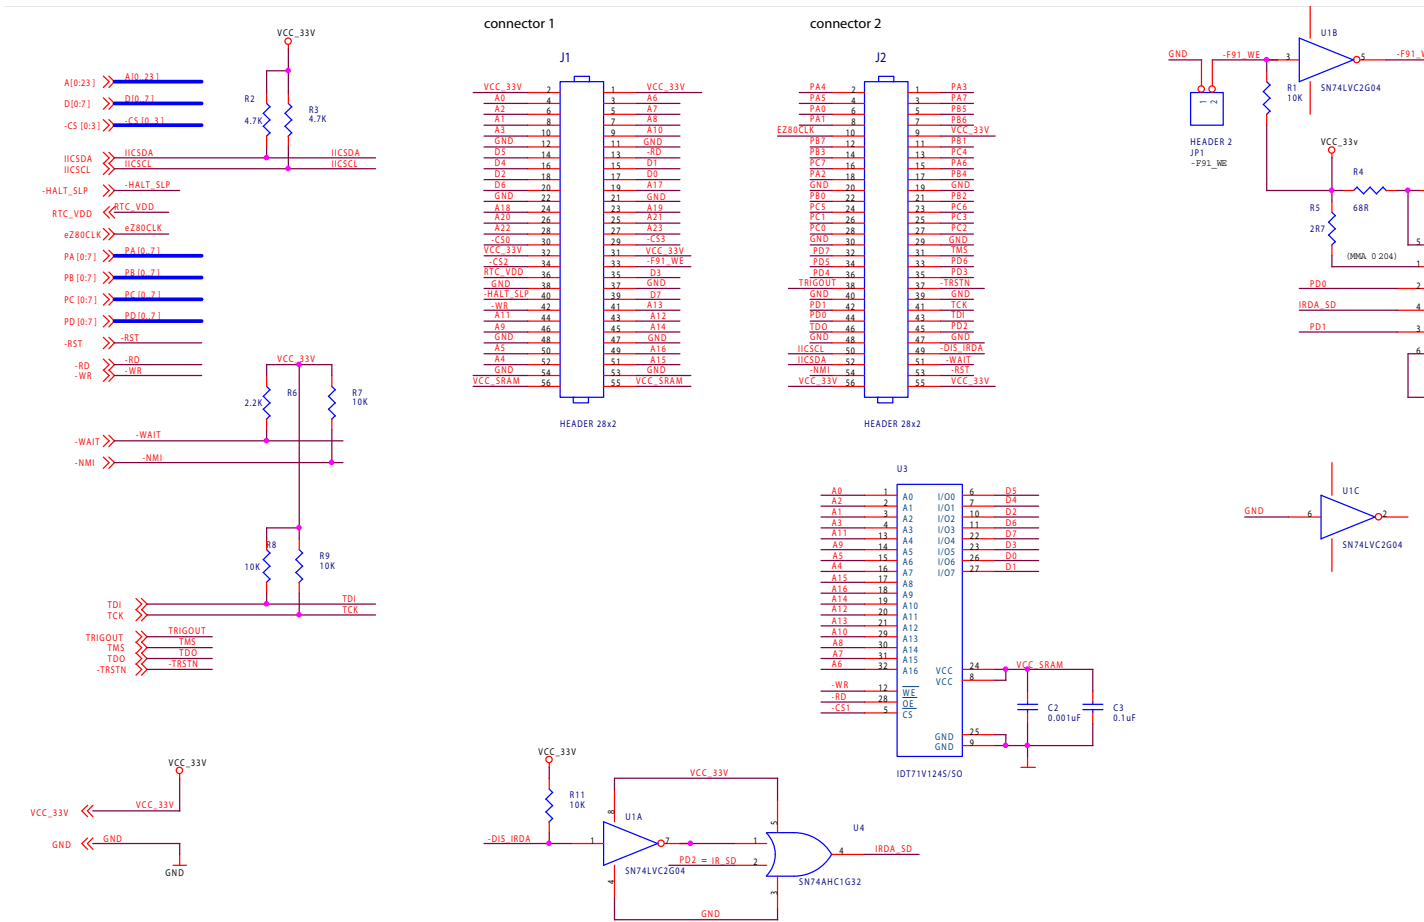
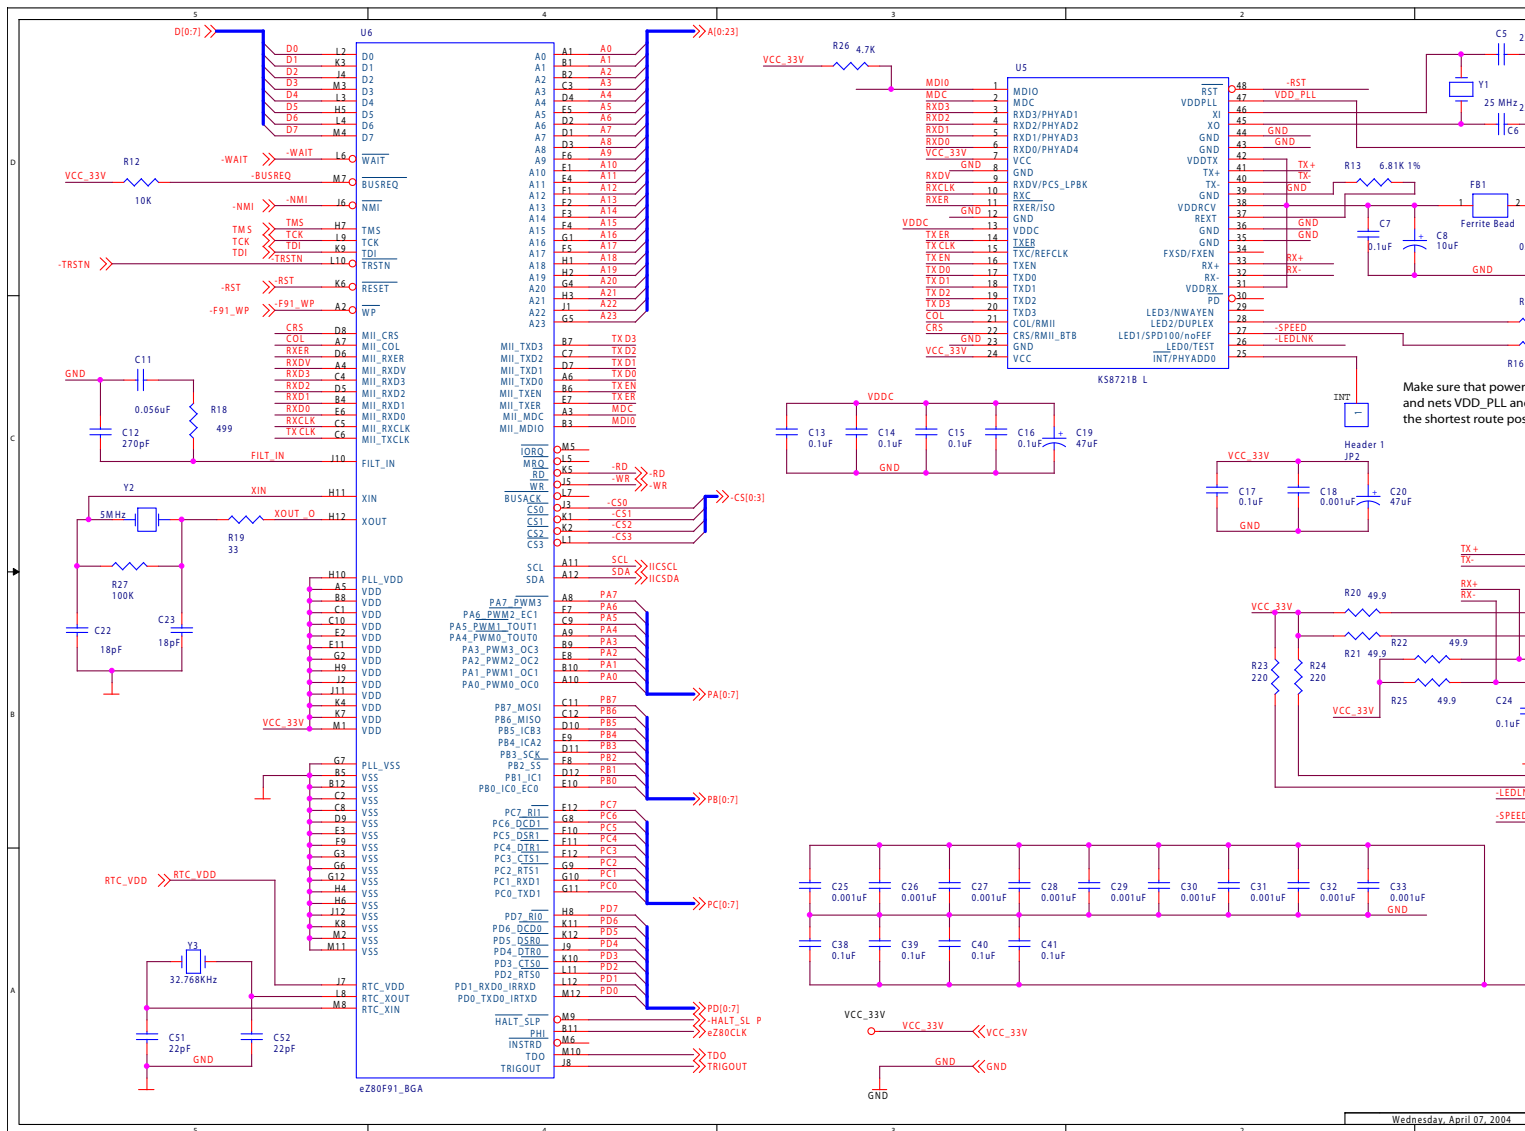

Figure 5. eZ80F91 Mini Enet Module for eZ80AcclaimPlus!™ Schematic Diagram, #1 of 2—Connectors and Mis
Figure 6. eZ80F91 Mini Enet Module for the eZ80AcclaimPlus!™ Schematic Diagram, #2 of 2—CPU and I/O
1. For the sake of simplicity in describing the interface, Power and Ground nets are omitted from this table. The entire interface is represented in the eZ80F91 Mini Enet Module schematics (see Figure 5 on page 14 and Figure 6 on page 15).
Figure 5 and Figure 6 display the layout of the eZ80F91 Mini Enet Module for eZ80AcclaimPlus!. IrDA circuitry d on the eZ80F91 Mini Enet Module for eZ80AcclaimPlus!. However, these devices appear in the following schematics. Please see “IrDA Transceiver” on page 11 for additional information.